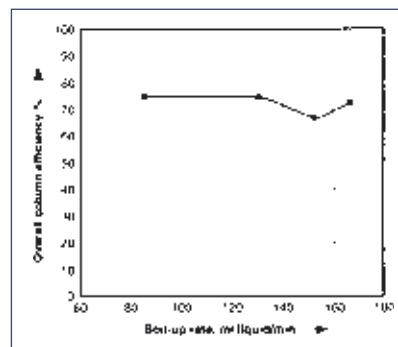

Fig. 2: Column overall efficiency as a function of boil-up rate
- column efficiency as a function of boil-up rate, at total reflux (Fig. 2)